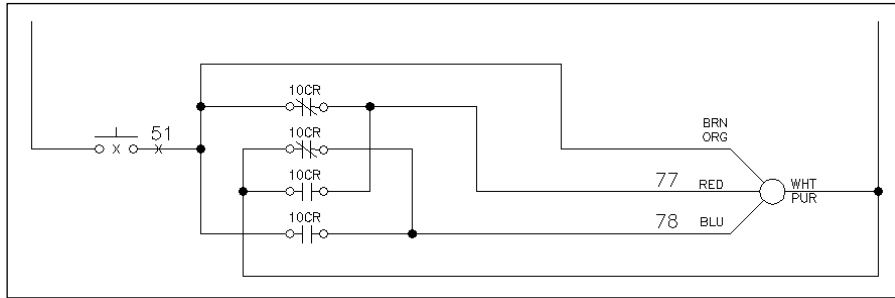

Figure 10-21: The completed electrical schematic.
8. Save your drawing. It should look like Figure 10-21.